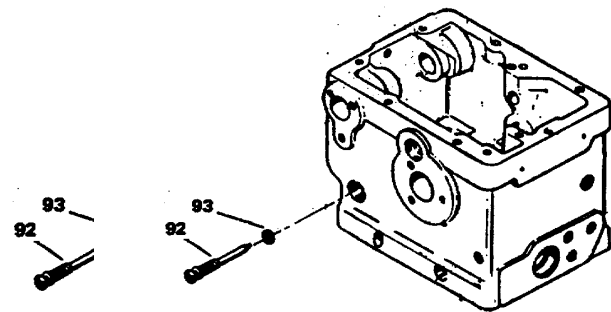

Figure 12-13. Needle Valve Assembly
**Insert buffer piston (103) into case correctly with cup end out.**
(8) Assemble needle valve (92) in case (figure 12-13).